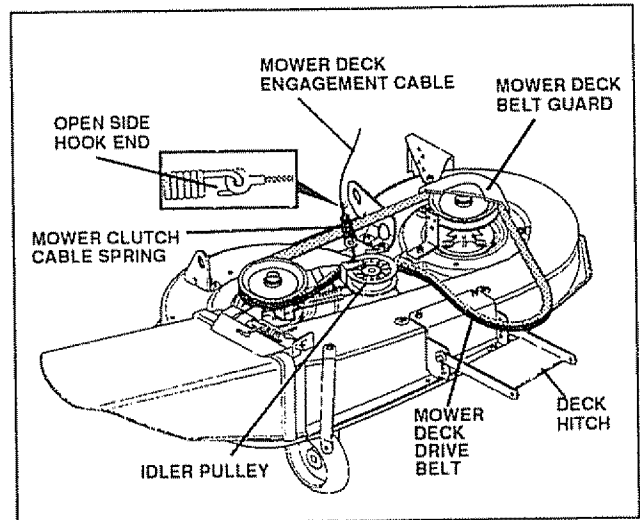

FIG. 25
- Disconnect mower deck engagement cable from mower clutch cable spring (see Fig. 25)
- From left side of tractor, slide deck rearward. Then connect mower deck engagement cable to mower clutch cable spring (see Fig. 25). Be sure open side of spring end is pointed down (see Fig. 25 inset).